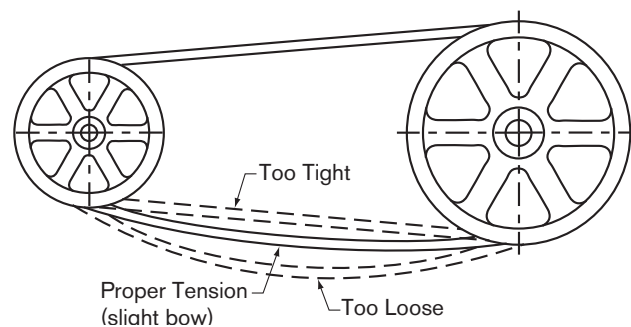

Figure 3
18. Unlock power to motor and run the fan. The belts should be running as shown in **Figure 3**. If not, repeat Step 10 through 14 after you have turned off power to the motor.